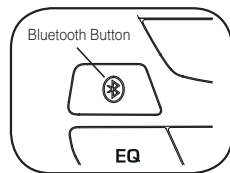

Figure 3
- Press the Bluetooth button in your car (figure 3) for about 5 seconds until you hear 3 continuous beeps.